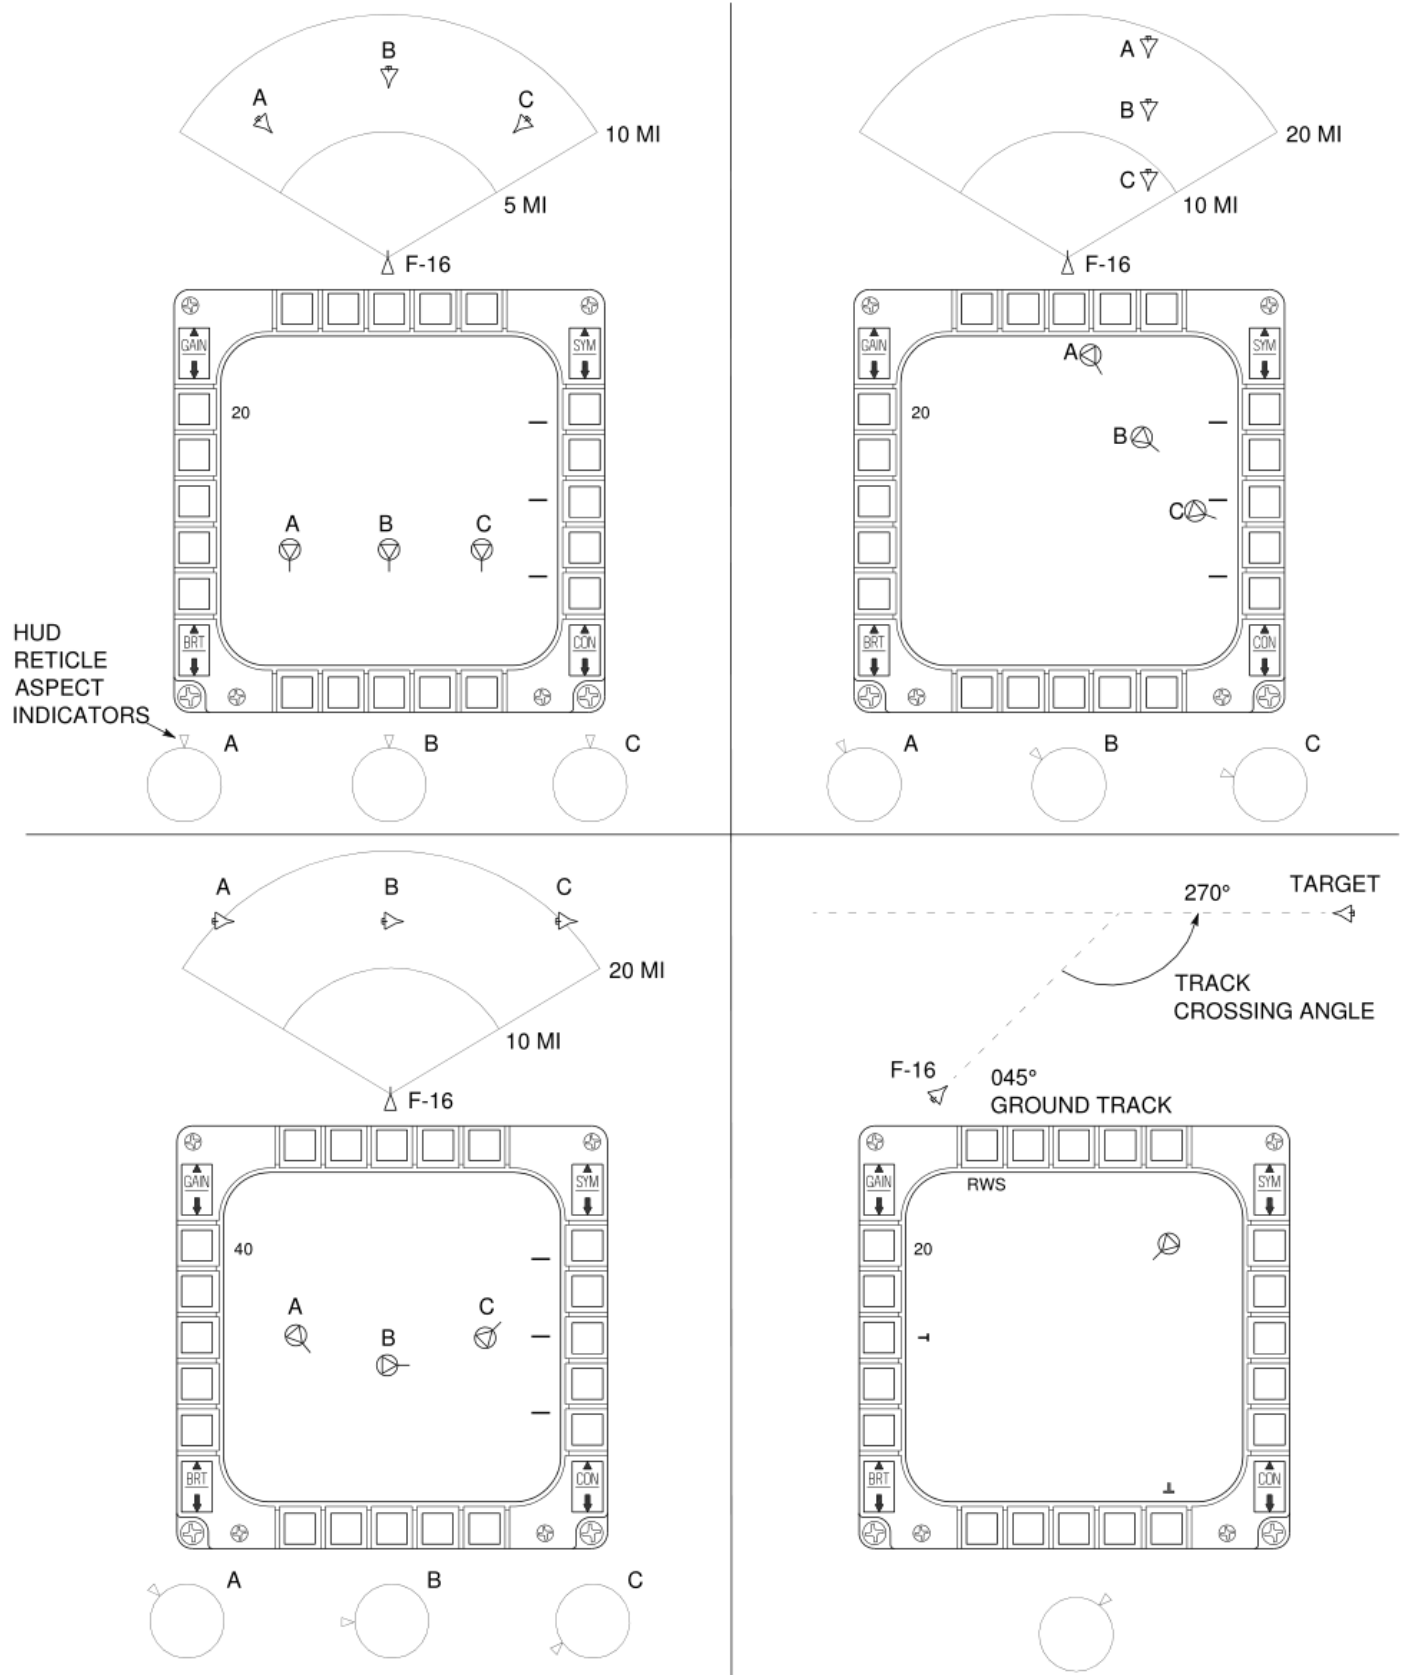

Figure 25 Tracked Target Symbology
1.4.4.1.16.2 The tracked target symbol provides additional data. The symbol rotates in 11.25° increments defined by the aspect angle (see Figure 25). A line extending from the nose of the symbol increases in length as absolute target velocity increases. Target altitude is displayed in thousands of feet beneath the symbol.